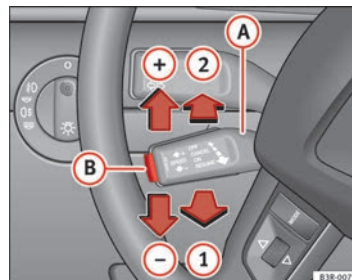

Fig. 143 Controls for the cruise control system
- Pull the lever **A** to position \Rightarrow Fig. 143 **1** to activate the system.
- Move the lever **(A)** up towards \Rightarrow Fig. 143 **(+)**.
- Move the lever **(A)** down towards \Rightarrow Fig. 143 **(-)**.
- You can increase the set speed in steps of 2 km/h by briefly pressing the lever **(A)** up towards \Rightarrow Fig. 143 **(+)**.
- You can decrease the set speed in steps of 2 km/h by briefly pressing the lever **(A)** down towards \Rightarrow Fig. 143 **(-)**.
If no speed was stored when the system was temporarily disabled, a new speed can be set as follows: drive at the desired cruising speed and briefly press button \Rightarrow Fig. 143 **(B)** (SET).
- Move lever **A** ⇒ Fig. 143 to position **2** (click stop engaged).